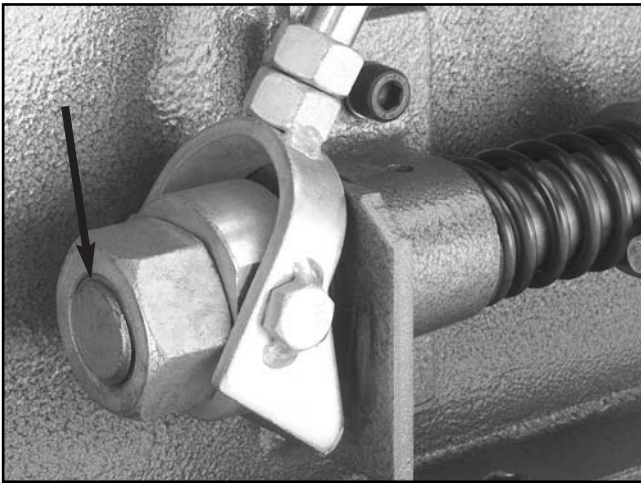

Figure 37. Tension nut flush with threads.
- Turn the tension nut counter-clockwise until the threads of the tension shaft are flush with the nut, as shown in **Figure 37**.